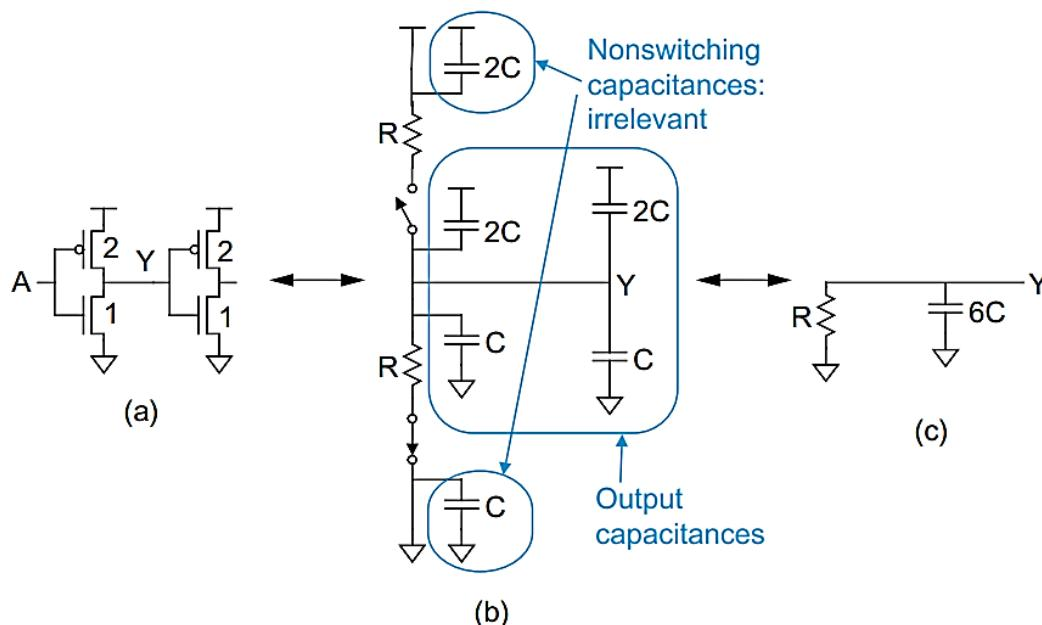

FIGURE 4.6 Equivalent circuit for an inverter
- Figure 4.6 shows the equivalent circuit for a fanout-of-1 inverter with negligible wire capacitance